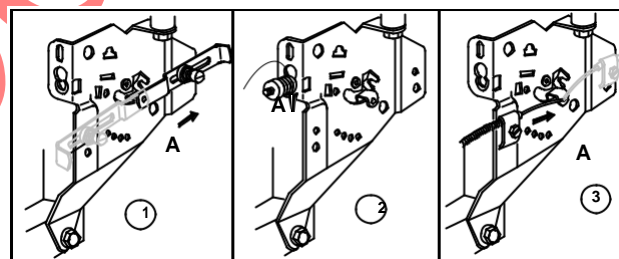

Fig. 71
Adjust as shown (A) to increase speed. Manual friction (1), fixed adjustable (2), remote control (3), Fig. 71.